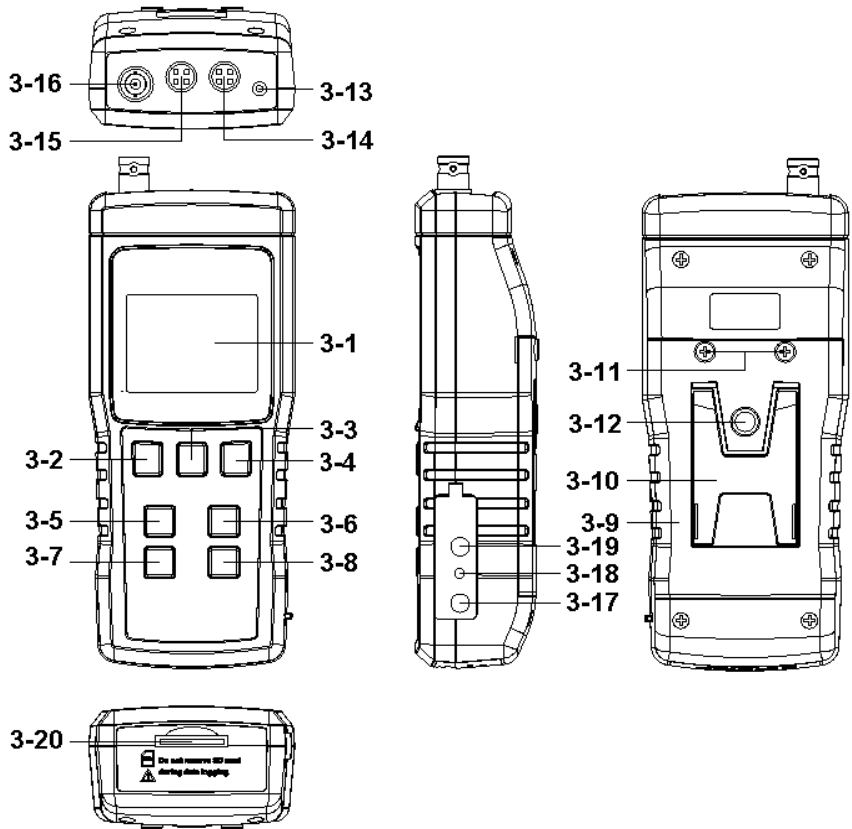
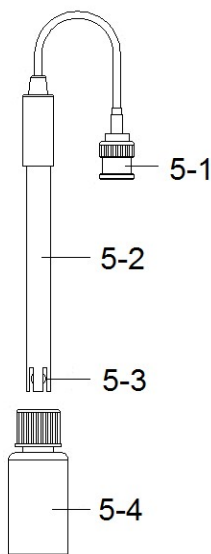

Fig. 1
Fig. 2
(3-2, Fig. 1) > 2 seconds.
* *Pressing the " Power Button " (3-2, Fig. 1)
Pressing and hold the " Function Button " (3-6, Fig. 1), the meter
" Function Button "(3-6, Fig. 1), the meter will show this function
- 1) Power on the meter by pressing " Power Button " (3-2, Fig. 1) once.
Press and hold the "Function Button" (3-6, Fig. 1) Select the Meter's measurement Mode to " PH ", refer to Chapter 4, page 12.
- 2) Prepare the pH Electrode (optional), install the " Probe Plug " (5-1, Fig. 2) into the " PH Socket/BNC Socket " (3-16, Fig. 1).
- 4) Hold the " Electrode Handle " (5-2, Fig. 2) by hand and let the " Sensing head " (5-3, Fig. 2) immersed wholly into the measured solution and little shake the electrode.
but should prepare one temperature probe (optional, TP-07), insert the TP-07's plug into the " Temp. Socket " (3-13, Fig. 1), immerse the sensing head of temperature probe (TP-07) into the measurement solution.
When not use the Electrode, it should immerse the " Electrode sensing head " (5-3, Fig. 2) into the " Protection bottle " (5-4, Fig. 2)
Press the " Function Button " (3-6, Fig. 1) once, the measure unit " pH " will change to " mV "
- 2) Prepare the ORP Electrode (optional, ORP-14), install the " Probe Plug " of ORP electrode into the " PH Socket/BNC Socket " (3-16, Fig. 1).
- 1) Prepare the pH Electrode (optional), install the " Probe Plug " (5-1, Fig. 2) into the " PH Socket/BNC Socket " (3-16, Fig. 1).
- 2) Power on the meter by pressing " Power Button " (3-2, Fig. 1) > 2 seconds, press the "Function (3-6 Fig1)" Select the Meter's measurement screen to the only " PH "screen.
- 4) Hold the " Electrode Handle " (5-2, Fig. 2) by hand and let the " Sensing head " (5-3, Fig. 2) immersed wholly into the measured solution and little shake the probe. Display will show the PH value.
5) Use the two fingers to press the " ▲ Button " (3-5, Fig. 1), and " ▼ Button " (3-6, Fig. 1) ,Until Display will show the following screen then release the both fingers.
6) Press the " ▲ Button " (3-5, Fig. 1) or " ▼ Button " (3-6, Fig. 1) once to select want to calibration point, then press enter key ,waiting measur value stable , then use " ▲ Button " (3-5, Fig. 1) or " ▼ Button " (3-6, Fig. 1), adjustment calibration point value to as the standard solution value.
- * After the above pH 7, 4, 10 screen is selected, then cooperate the relative standard solution, for example the ***pH 7.00 calibration point should cooperate the pH 7.00 standard solution.*** ***pH 4.00 calibration point should cooperate the pH 4.00 standard solution.*** Press the " Enter Button " (3-8, Fig. 1) will save the calibration data and finish the calibration procedures.
- * If select the clear point, press the " Enter Button " (3-8, Fig. 1) will clear existing calibration data.
- * If select the Escape Calibration, press the " Enter Button " (3-8, Fig. 1) will Escape Calibration Function and back normal measurement.